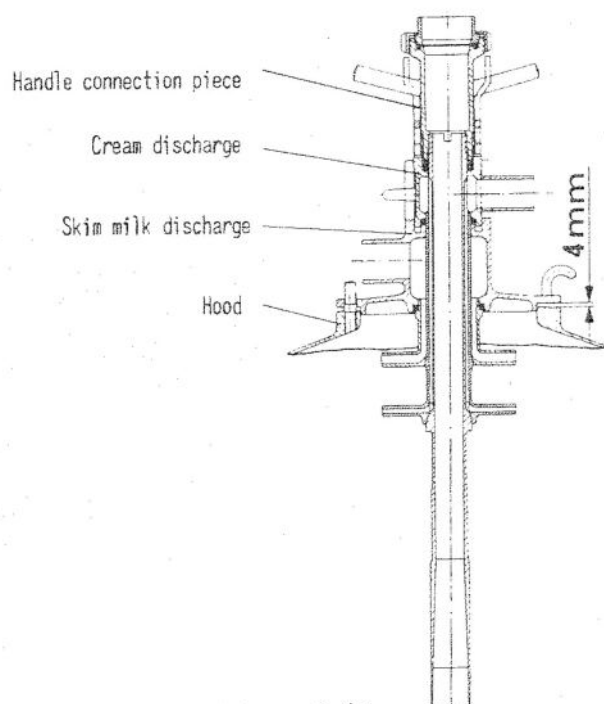

Fig. 8/5
- c) the handle connection piece (fig. 8/5) is fastened tightly.